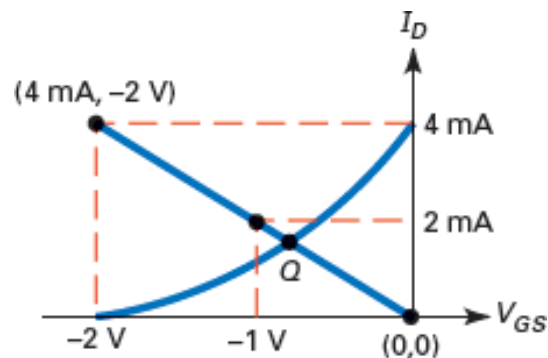

Figure-9 Self bias Q point
- When a JFET's transconductance curves are known, we can analyze a self-bias circuit using graphical methods. Suppose a self-bias JFET has the transconductance curve shown in Figure-9.
- We now have two points on the graph of Eq. (7). The two points are (0, 0) and (4 mA, -2 V). By plotting these two points as shown in Figure-9, we can draw a straight line through the two points as shown.
- In summary, here is a process for finding the Q point of any self-biased JFET, provided you have the transconductance curve. If the curve is not available, you can use the I_{DSS} rated values, along with the square law equation (3), to develop one: